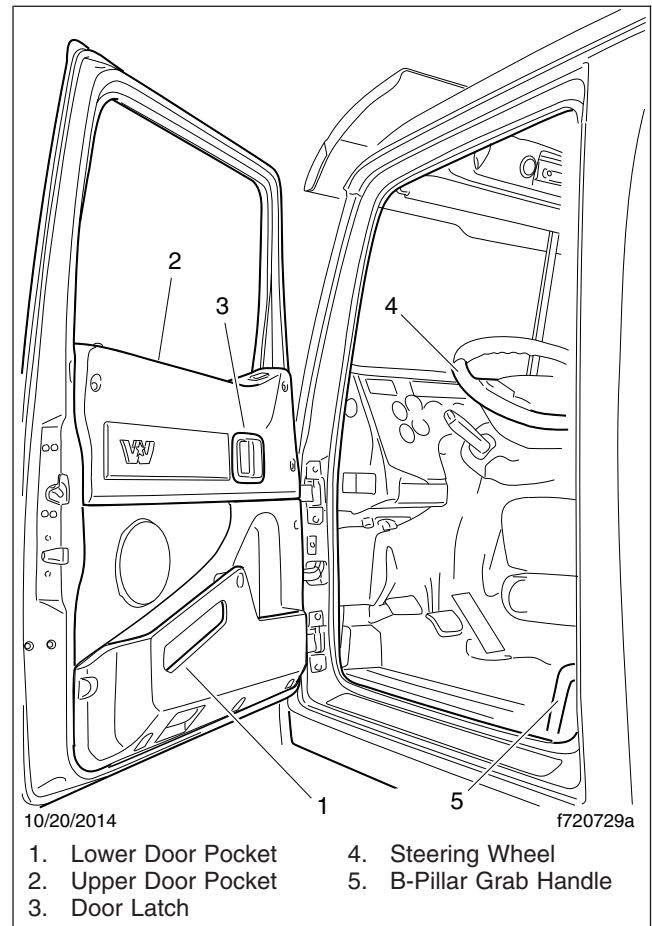

Fig. 2.3, Driver-Side Cab Access
2. Grasp the B-pillar grab handle with your right hand. See Fig. 2.3.
2. Grasp the B-pillar grab handle with your right hand. See Fig. 2.3, item 5.